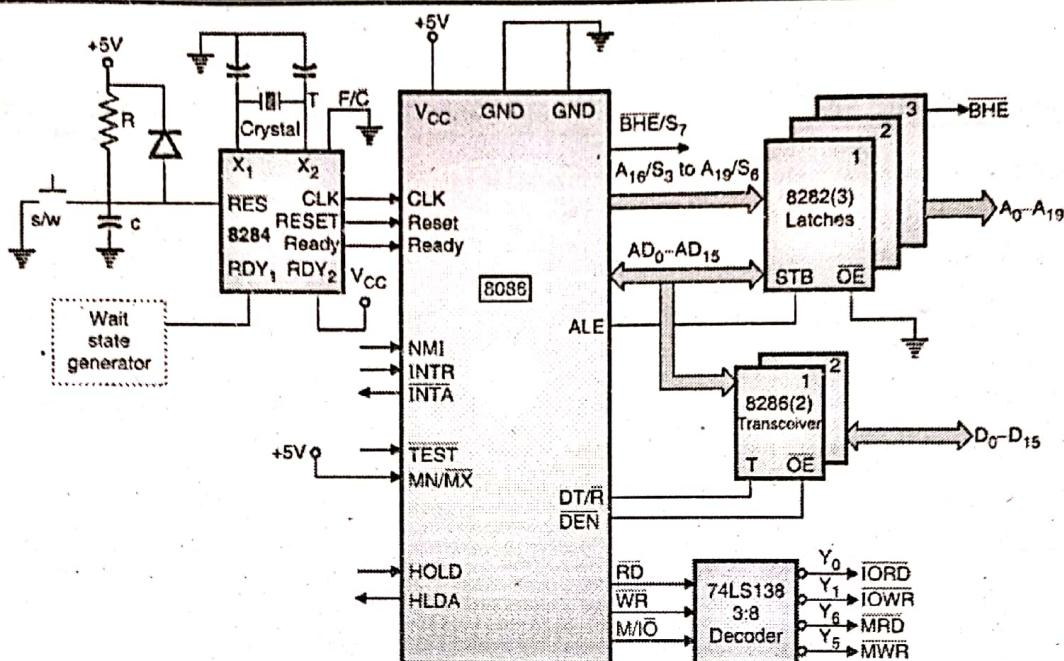

Fig. 1- Q.2(a) : Block diagram of minimum system in minimum mode
- In Fig. 1- Q.2(a) the signals $AD_0 - AD_{15}$, $A_{16} / S_3 - A_{19} / S_6$ and \overline{BHE} / S_7 are multiplexed.
- Fig. 1- Q.6(a) is the timing diagram which shows the activities of various signals during the read operation